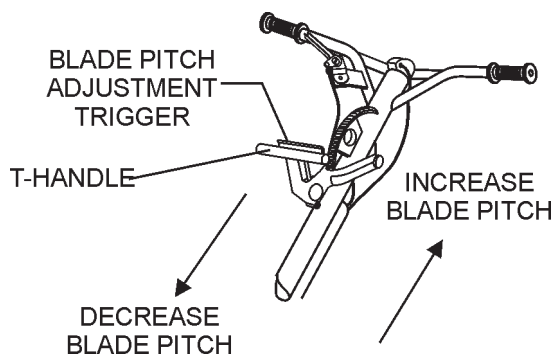

Figure 27. Quick Pitch™ T-Handle
1. To pitch the blades upwards using the "**Quick Pitch™ T-handle**", (Figure 27) simply squeeze the trigger lock and pull the **T-handle** towards the operator. Pushing the **T-handle** towards the engine will cause the blades